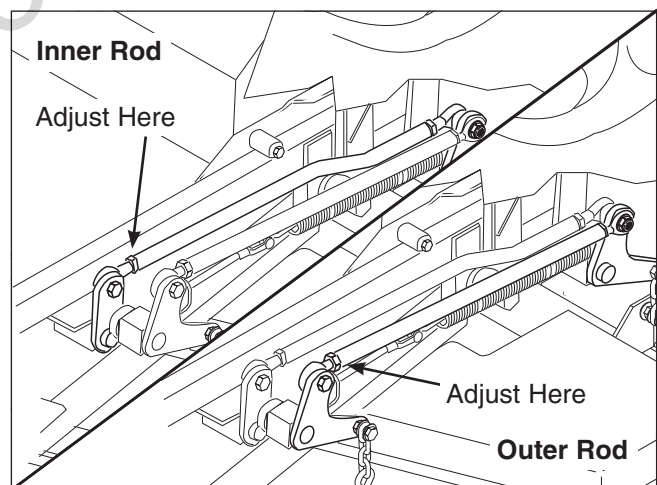

Figure 48. Adjust the Inner & Outer Lift Rods
8. Refer to Figure 48. To adjust the inner lift rod, loosen the jam nut on the front ball joint then remove the 1/2" hardware fastening the ball joint the the lift pivot arm. Turn the ball joint clockwise to shorten the distance between the rod pivots or counterclockwise to lengthen the distance between the rod pivots. Reinstall the ball joint on the lift pivot arm and secure with the 1/2" hardware previously removed. Tighten the jam nut against the lift rod.
9. Refer to Figure 48. To adjust the outer lift rod, loosen the jam nut on the front ball joint then remove the 1/2" hardware fastening the ball joint the the lift pivot arm. Turn the ball joint clockwise to shorten the distance between the rod pivots or counterclockwise to lengthen the distance between the rod pivots. Reinstall the ball joint on the lift pivot arm and secure with the 1/2" hardware previously removed. Tighten the jam nut against the lift rod.